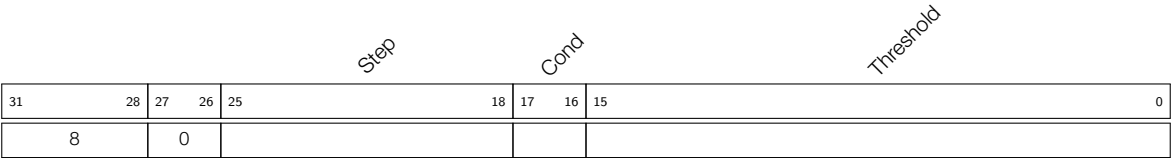

Figure 28-16. Instruction Type - JUMPR
**Operand**    **Description** - see Figure 28-16*Threshold*    Threshold value for condition (see *Cond* below) to jump*Cond*    Condition to jump:0 - jump if  $R0 < Threshold$ 1 - jump if  $R0 > Threshold$ 2 - jump if  $R0 = Threshold$ *Step*    Relative shift from current position, expressed in 32-bit words:if  $Step[7] = 0$ , then  $PC = PC + Step[6:0]$ if  $Step[7] = 1$ , then  $PC = PC - Step[6:0]$ **Note:**